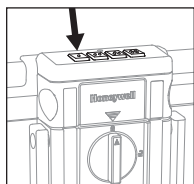

Figure 2.1
1. Enter the default passcode (Figure 2.1)